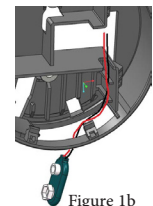

Figure 1b
- (d) Guide the 9V battery cable through the slot in the keypad housing. **THE BATTERY CONNECTOR MUST BE ACCESSIBLE FROM THE BATTERY DOOR BEFORE SNAPPING THE KEYPAD TOGETHER, OR THE KEYPAD WILL BE INOPERABLE.** Snap the keypad electronic assembly to the housing until evenly seated. (Figures 1b, 1c)